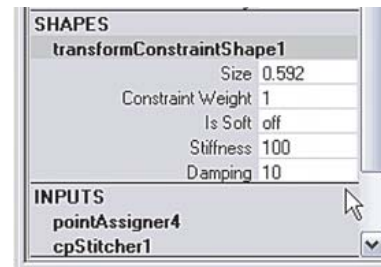

Figure 1.29: Transform constraint attributes
4. Create another constraint on the upper-right corner using locator2. As the cloth simulates, the constrained vertices follow the locators. In the Outliner, expand the hierarchy for cloth1. There will be two constraint nodes. Select transformConstraint1 and look at the Channel box. Under the shape node are attributes for the constraint (see Figure 1.29).